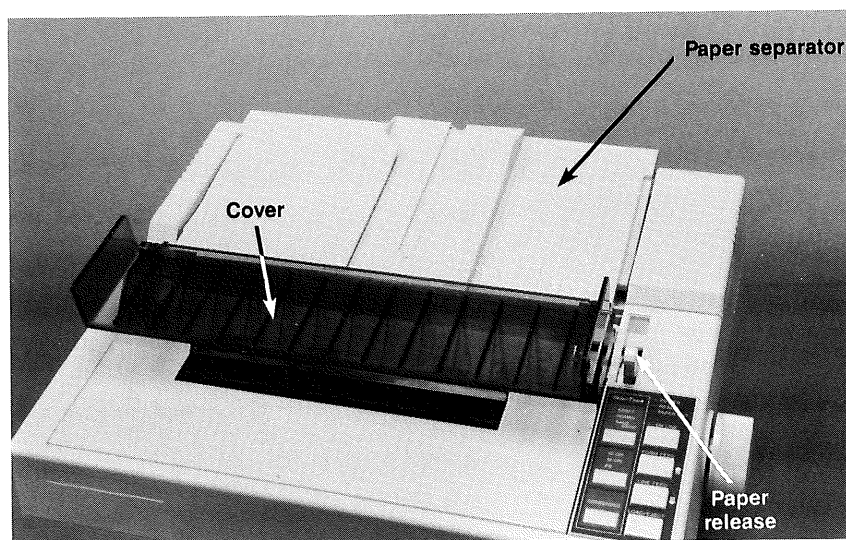

Figure C1.
2. Fold the back of the printer cover forward. Pull the paper release lever forward. Remove the paper separator. See Figure C1.